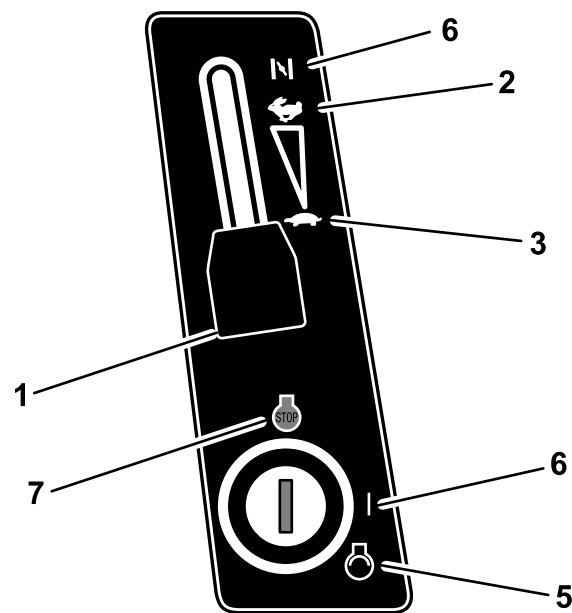

Figure 13
5. When starting a cold engine, shift the throttle control lever to the Choke position (Figure 13).
6. Shift the throttle control lever to the Slow position (Figure 13).
7. Turn the ignition key clockwise and hold it in the Start position (Figure 13). When the engine starts, release the key.
8. After the engine starts, slowly shift the throttle control lever to Fast (Figure 13).
1. Move the throttle control lever to Slow (Figure 13).
2. Turn the ignition key to Off (Figure 13).